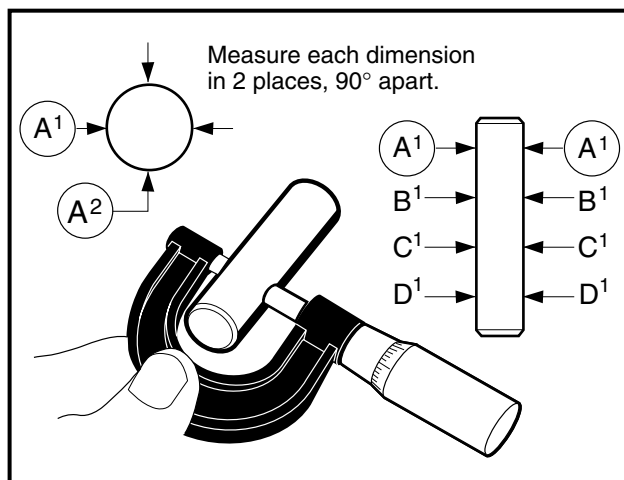

Figure 2-49 Measure O.D. of Piston Pin
1. Use a micrometer to measure the outside diameter of the piston pin at several points along its length (**Figure 2-49, Page 2-24**).